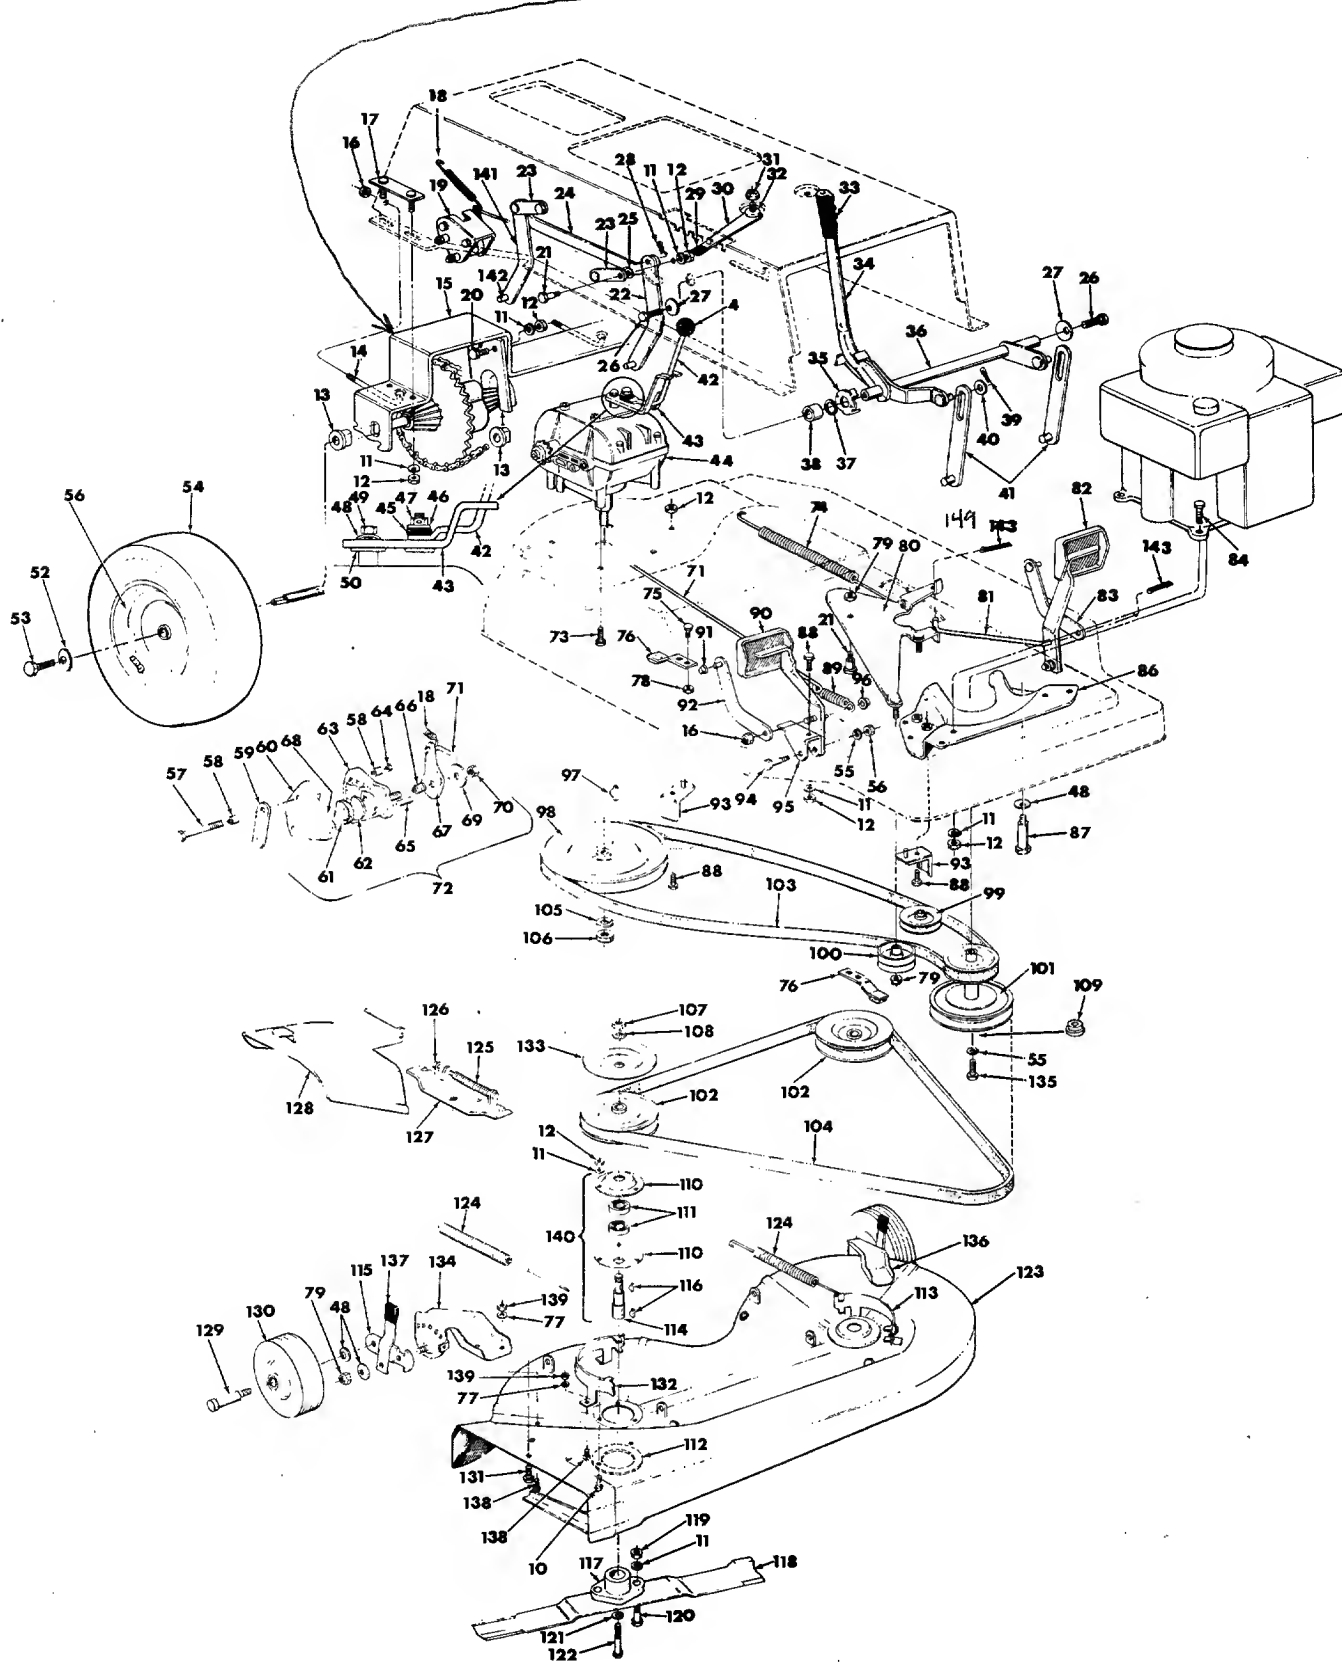

FIGURE 29. CUTTING ASSEMBLY—30"
**PARTS LIST FOR FIGURE 29 — 30" DECK AND FRAME VIEW**